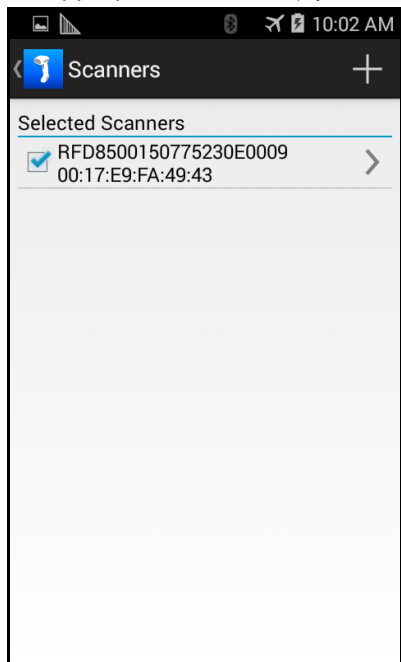

Figure 6-5 *Scanners Screen*
- The *Scanners* screen displays all scanners paired via Bluetooth with the mobile device. Touch the appropriate scanner (by serial number) to display the *Available Scanner Connect* screen (Figure 6-5).